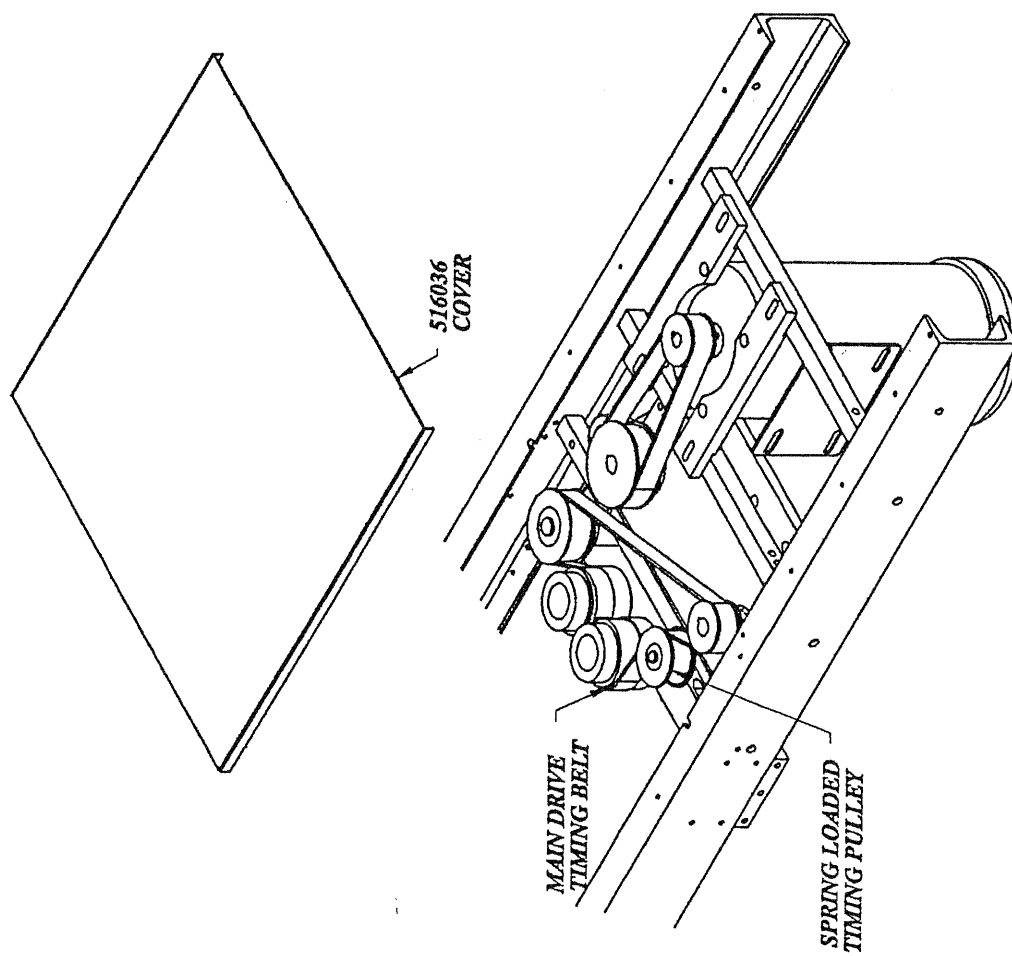

FIGURE 9.0
3.) Remove cover 516036. See Figure 9.0
10.) Slip timing belt over spring-loaded takeup pulley to remove and install new timing belt. See Figure 9.0